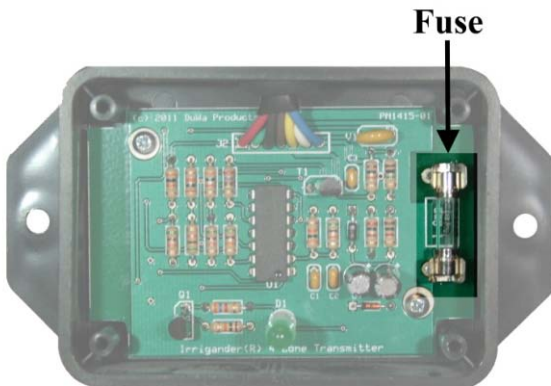

Figure 2 – Fuse Location
3. Remove the old fuse and replace with a fuse of identical size and rating (1 amp, 5mm x 20mm). See Figure 2 below for the fuse location.